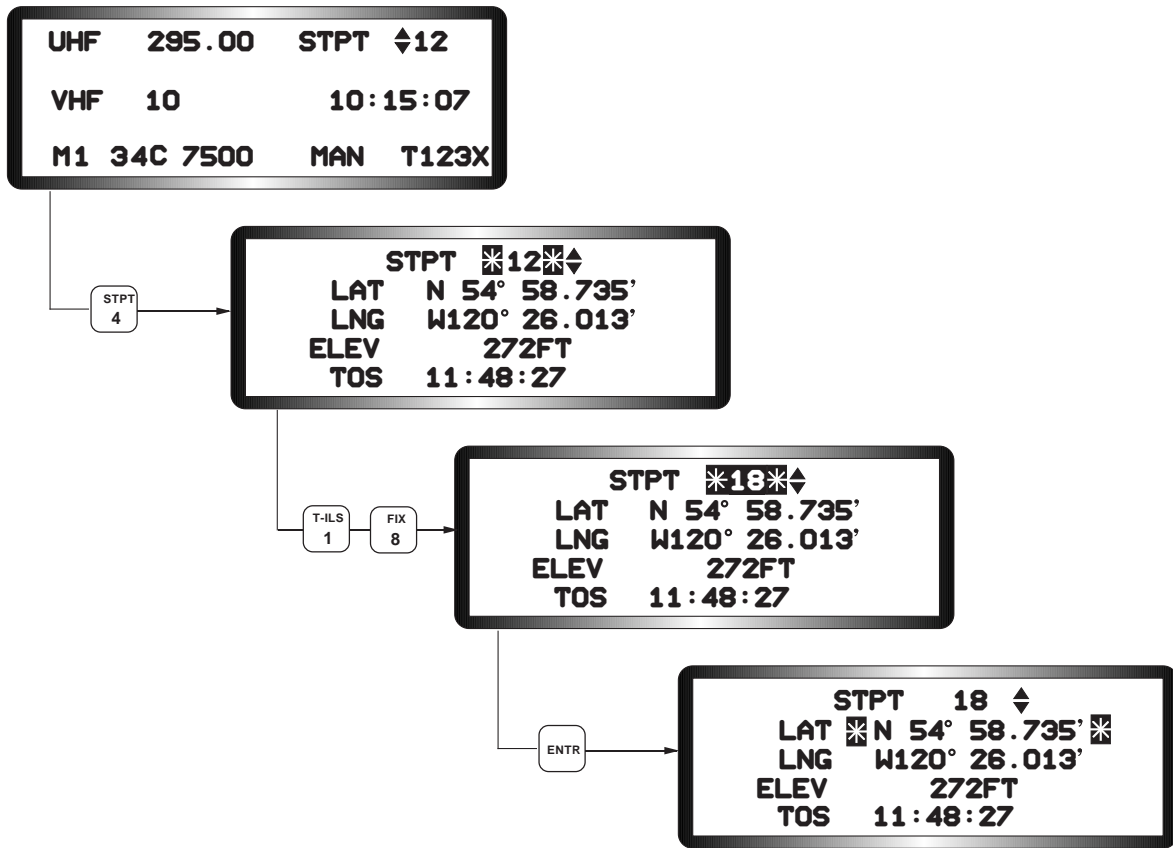

Figure 1-32 Data Entry
**Data Entry.** For data entry, the asterisks may only be positioned about enterable fields or selectable options (Figure 1-32). For example, if the asterisks are about the steerpoint number on the Steerpoint page, depressing one of the keys 1 through 0 highlights the asterisks, and the area between them, and places that number